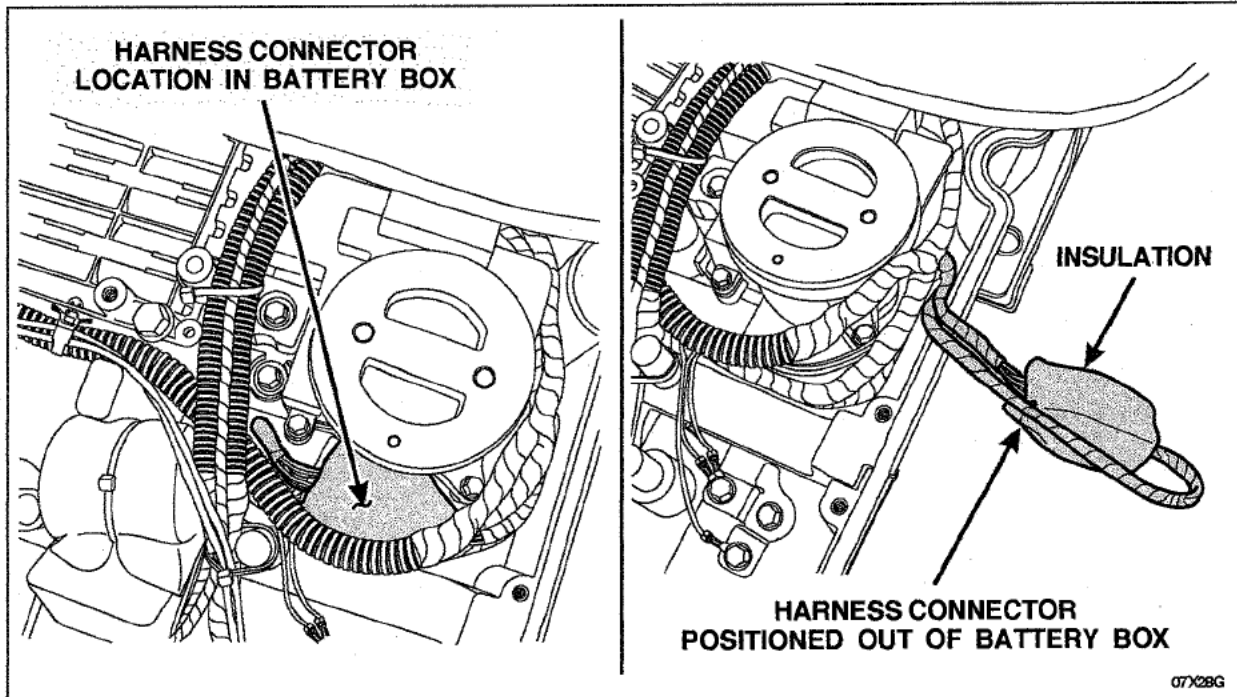

FIGURE 7
10. Pull the connector, which is located near the service disconnect plug, out of the battery box and remove the insulation from the connector. Do not use any solvent to remove the insulation. See Figure 7.